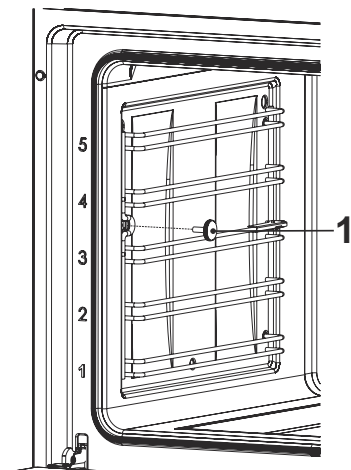

Fig. 27
- 3.** ➔ Remove the serrated screw inside the oven by rotating it counter-clockwise to clean the wire rack inside the oven (Fig. 27).